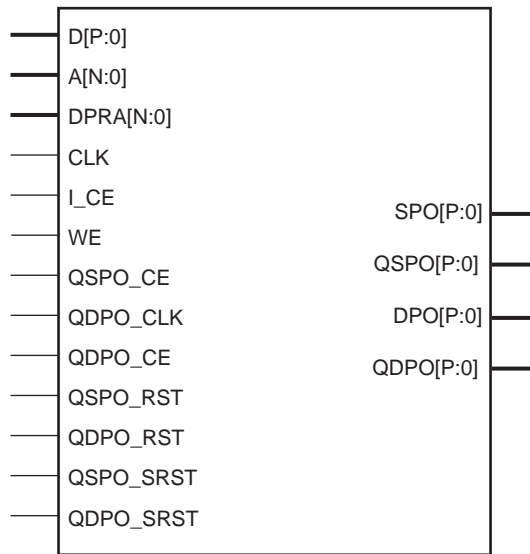
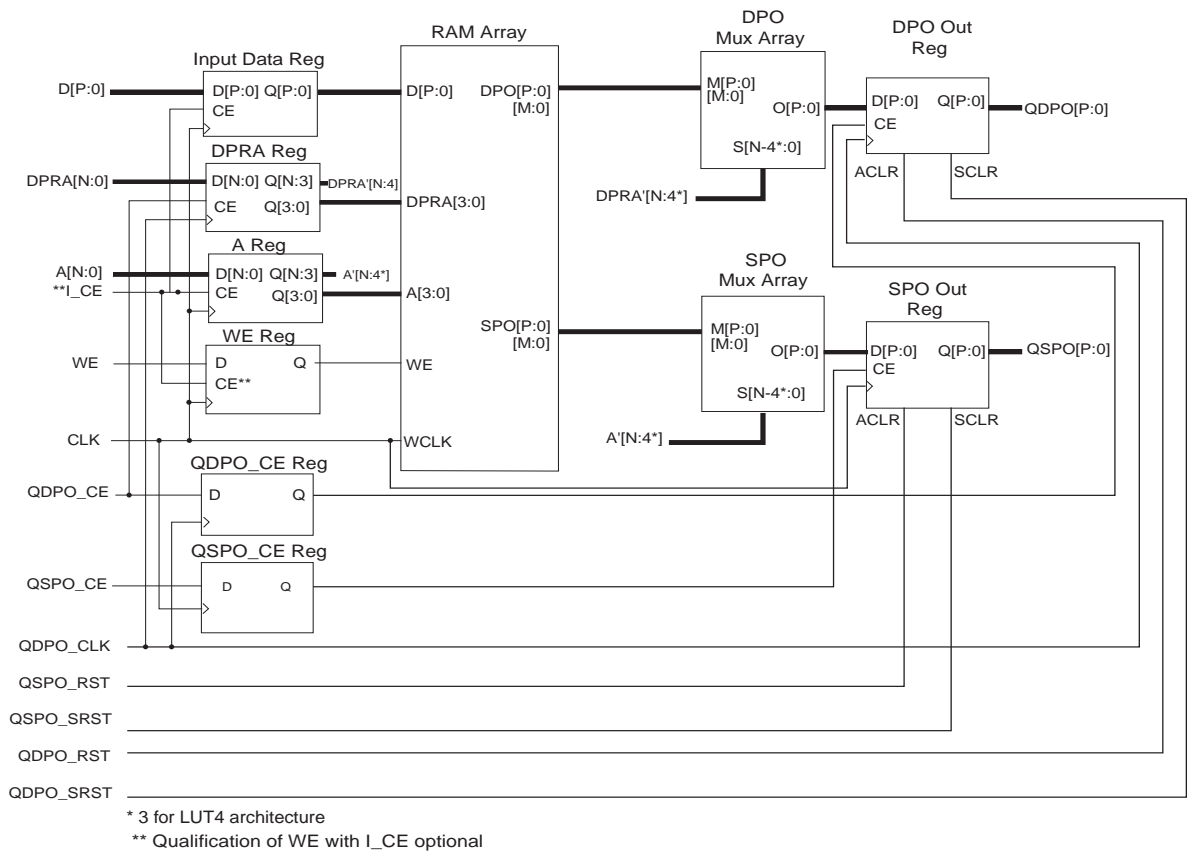

Figure 5: Dual-Port RAM Schematic Symbol
Figure 6: Dual-Port RAM Module Schematic
Writes to the distributed dual-port RAM are synchronous to the clock (`CLK`). However, read operations from the distributed dual-port RAM can be asynchronous or synchronous with respect to either of the two clocks (`CLK` or `QDPO_CLK`). Figure 5 illustrates the dual-port RAM schematic symbol, showing the relevant ports. Figure 6 shows the internal implementation of the distributed dual-port RAM. If a pipeline register is added to a registered core (not illustrated), the additional register is re-timed into the SPO MUX array and DPO MUX array.
- **Dual-Port RAM.** Figure 6 is a schematic of the structure of the dual-port RAM modules. The address and data registers are optional (controlled by the setting of the Input Options parameter). The dual-port read address register is optional (controlled by the setting of the Dual-Port Address parameter). Output registers for both output ports are also optional (controlled by the setting of the Output Options parameter). When registered outputs are selected, the two output ports can be